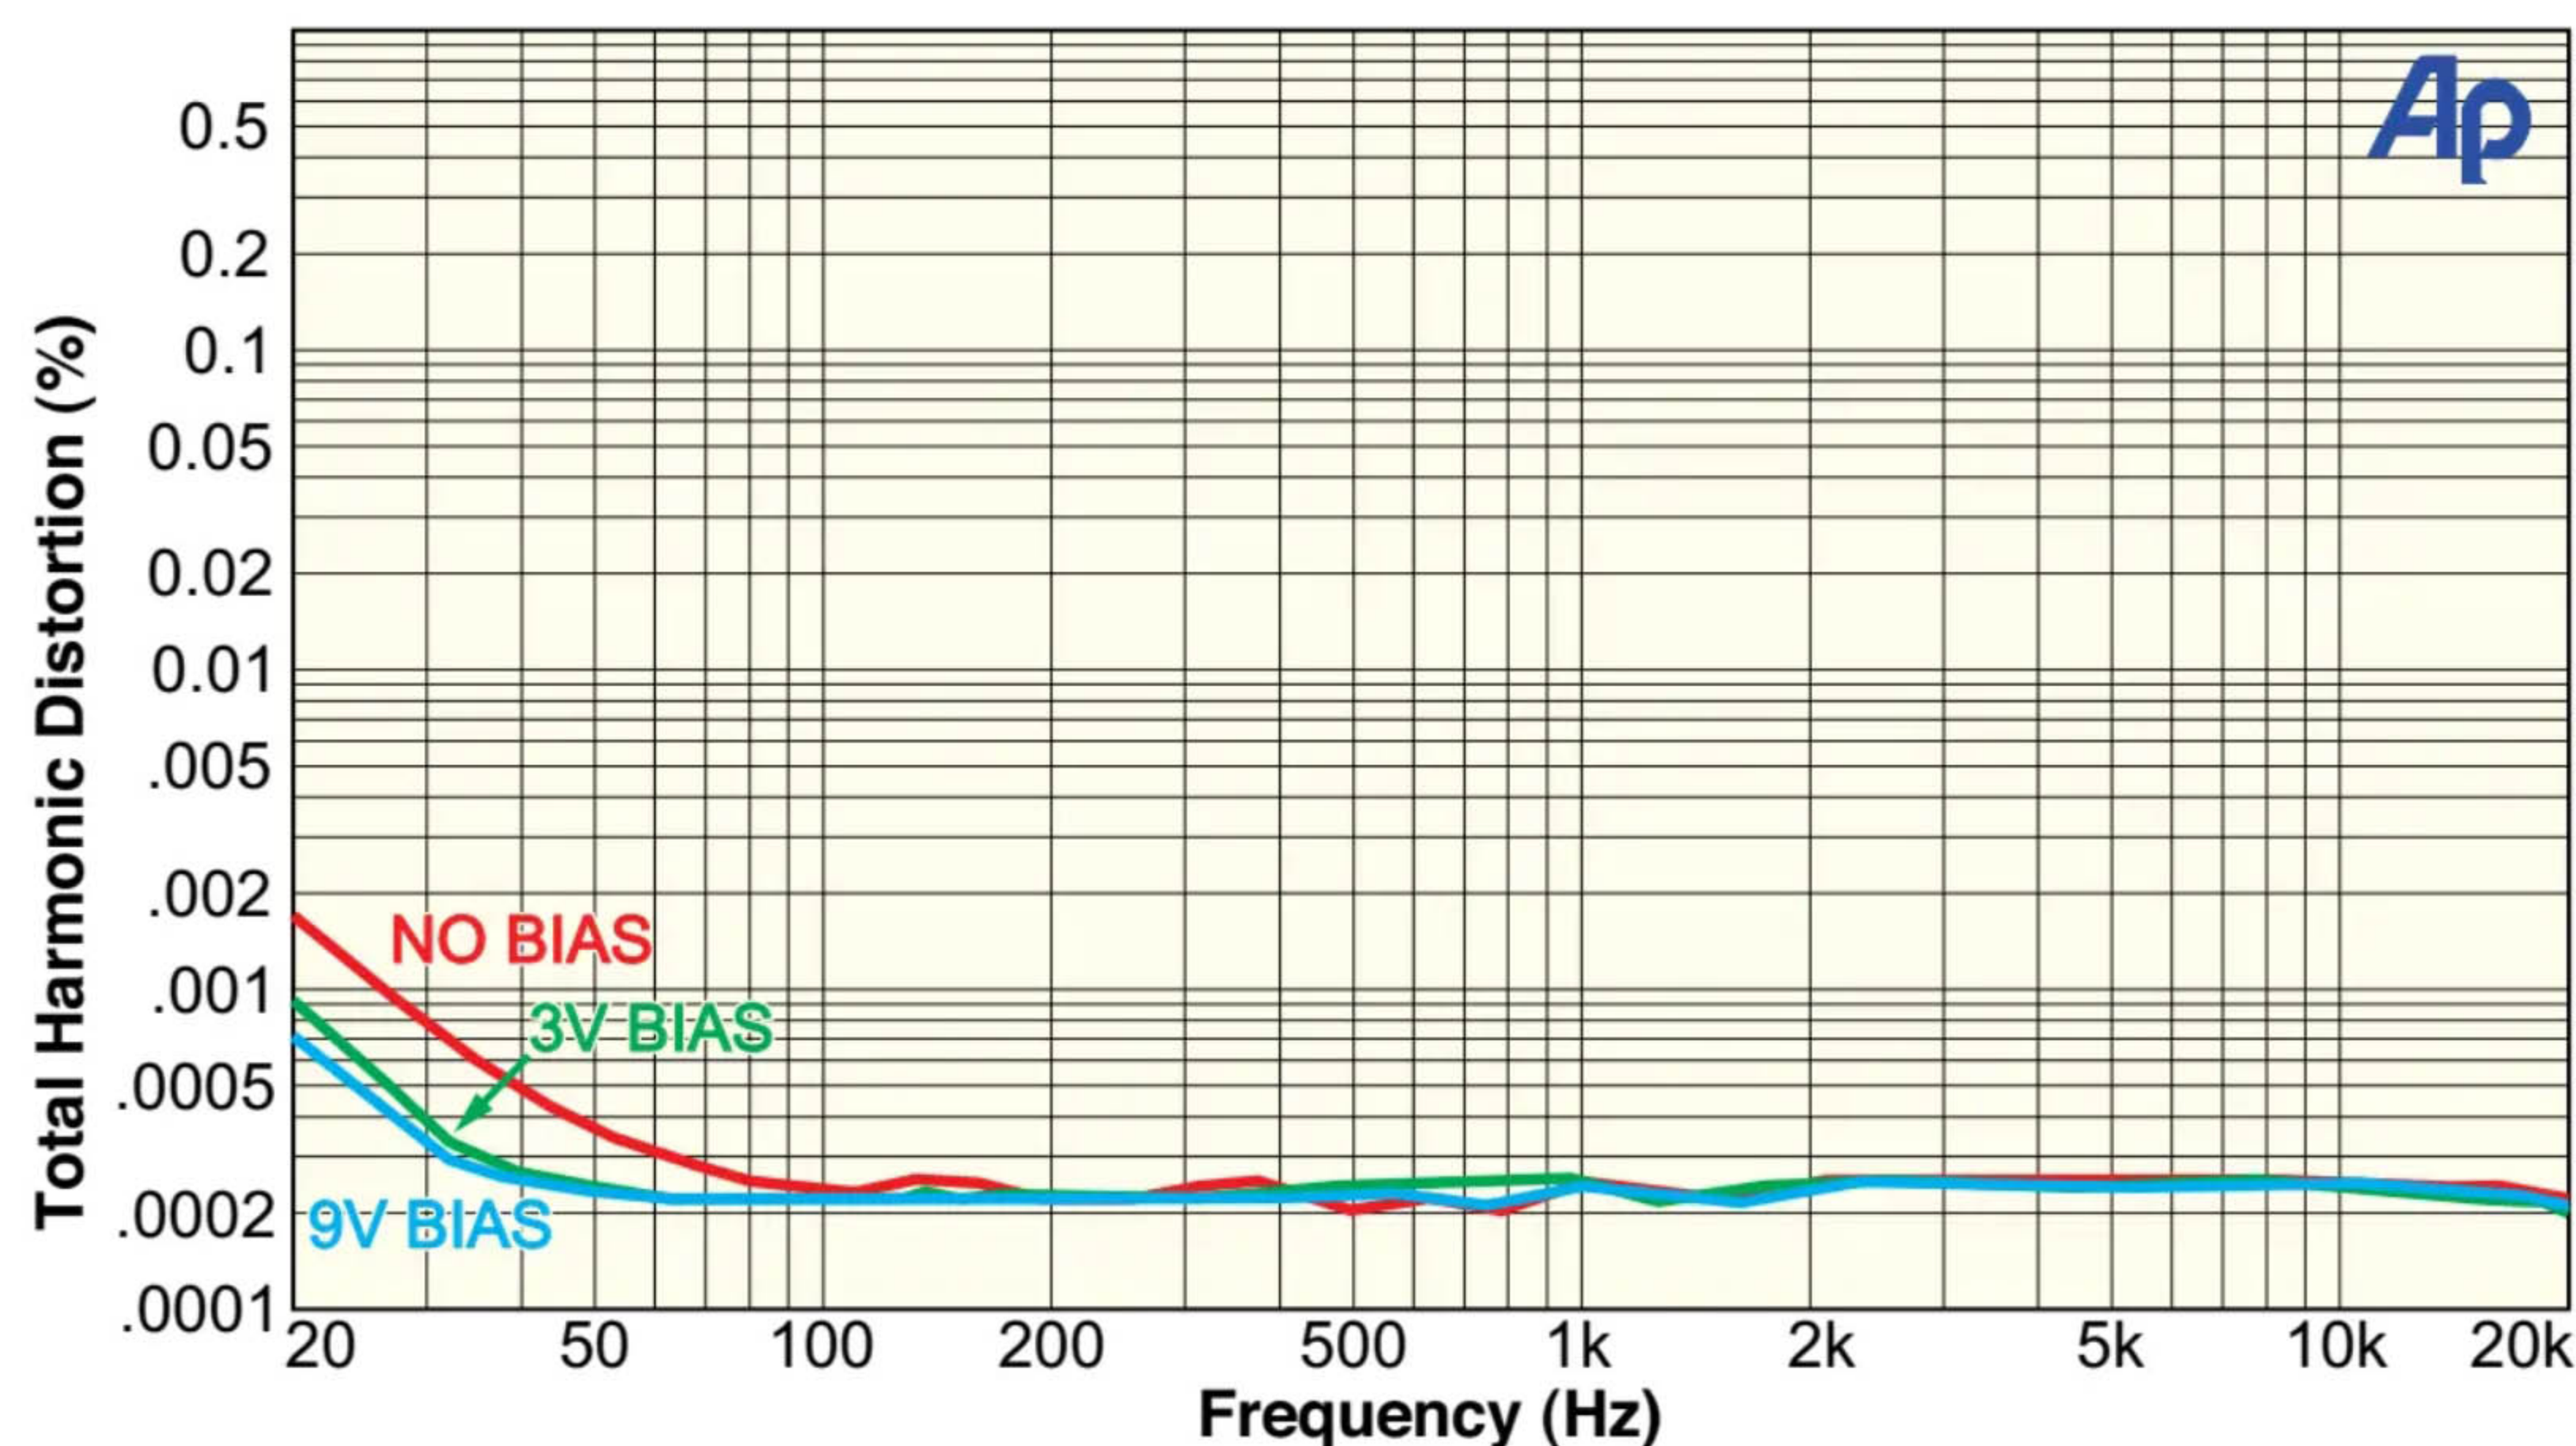

Fig.18: solid tantalum bead capacitor distortion curves, 1V RMS into 600Ω with a 100µF 10V Kemet type. No bias THD = 0.0018%, 3V = 0.0009%, 9V = 0.0007%.
Solid tantalum capacitors don't degrade without bias, but the distortion is higher (Fig.18). Wet electrolytics do suffer from prolonged storage, especially the non-polarised (NP) types. In most NP data sheets, it says to polarise one way, then the other every 250 hours. If you don't do this, the capacitors can pop in the drawer after a few years.